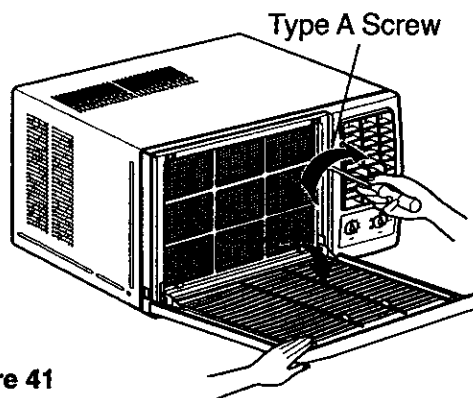

Figure 41
1. Open the Inlet grille downward. (See Figure 41)